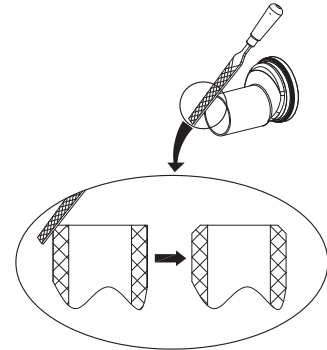

Figure 4
- ☐ Bevel and deburr the sharp edges. (Figure 4)